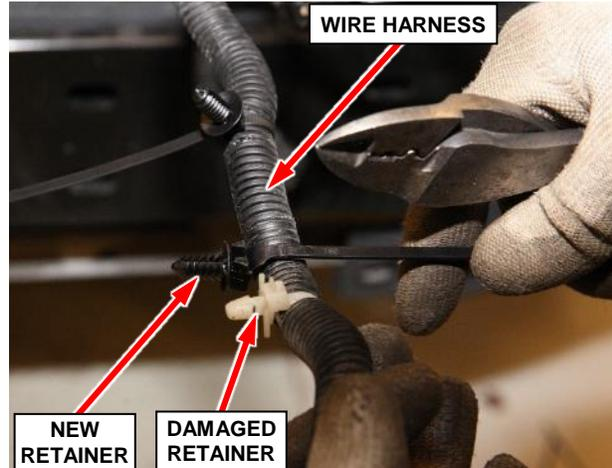

Figure 23 – Wire Harness Retainers
22. Replace any damaged retainers on the cooling fan module wire harness. Install the replacement retainers in the same location and direction as the original retainer (Figure 23).